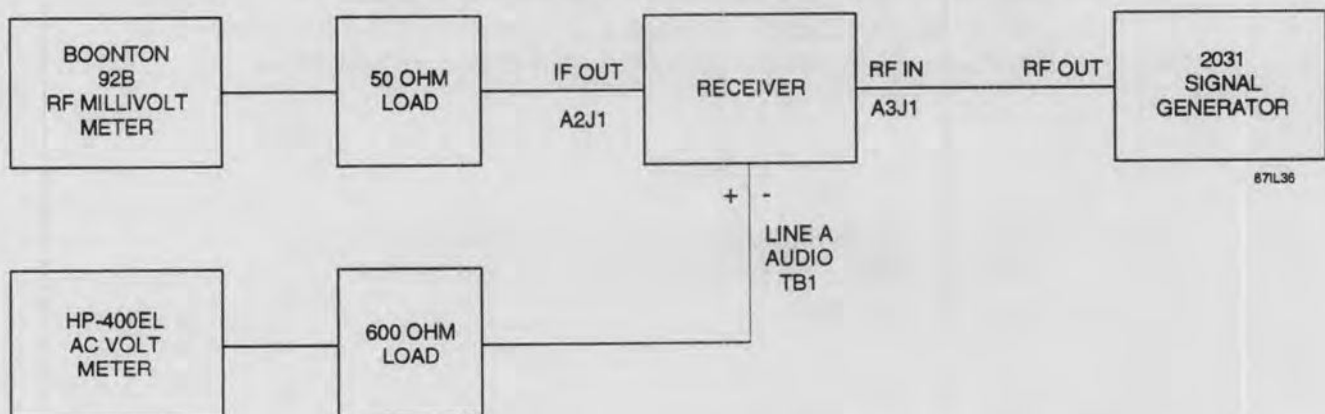

Figure 7-5. Receiver Sensitivity Performance Test Equipment Connection
1. Connect the HF-1000 Receiver and test equipment as illustrated in **Figure 7-5**.